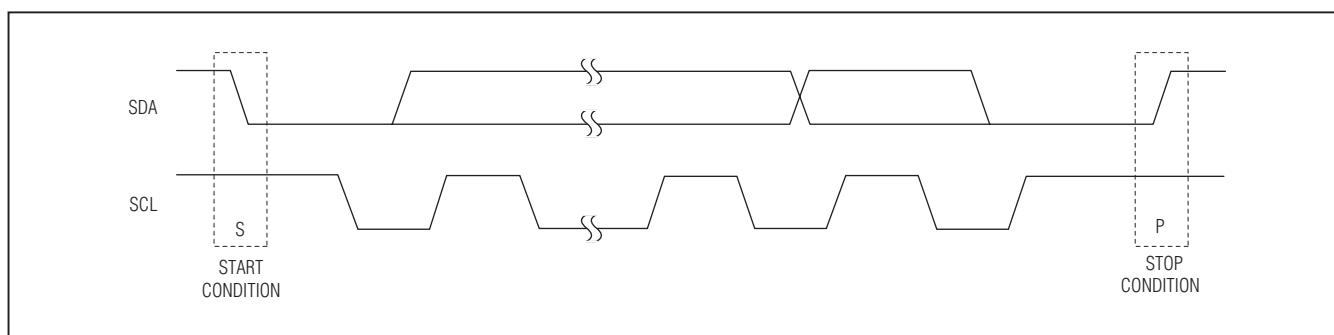

Figure 5. START and STOP Conditions
Both SCL and SDA remain high when the interface is not busy. A master signals the beginning of a transmission with a START (S) condition by transitioning SDA from high to low while SCL is high (see Figure 5). When the master has finished communicating with the slave, it issues a STOP (P) condition by transitioning SDA from low to high while SCL is high. The bus is then free for another transmission.